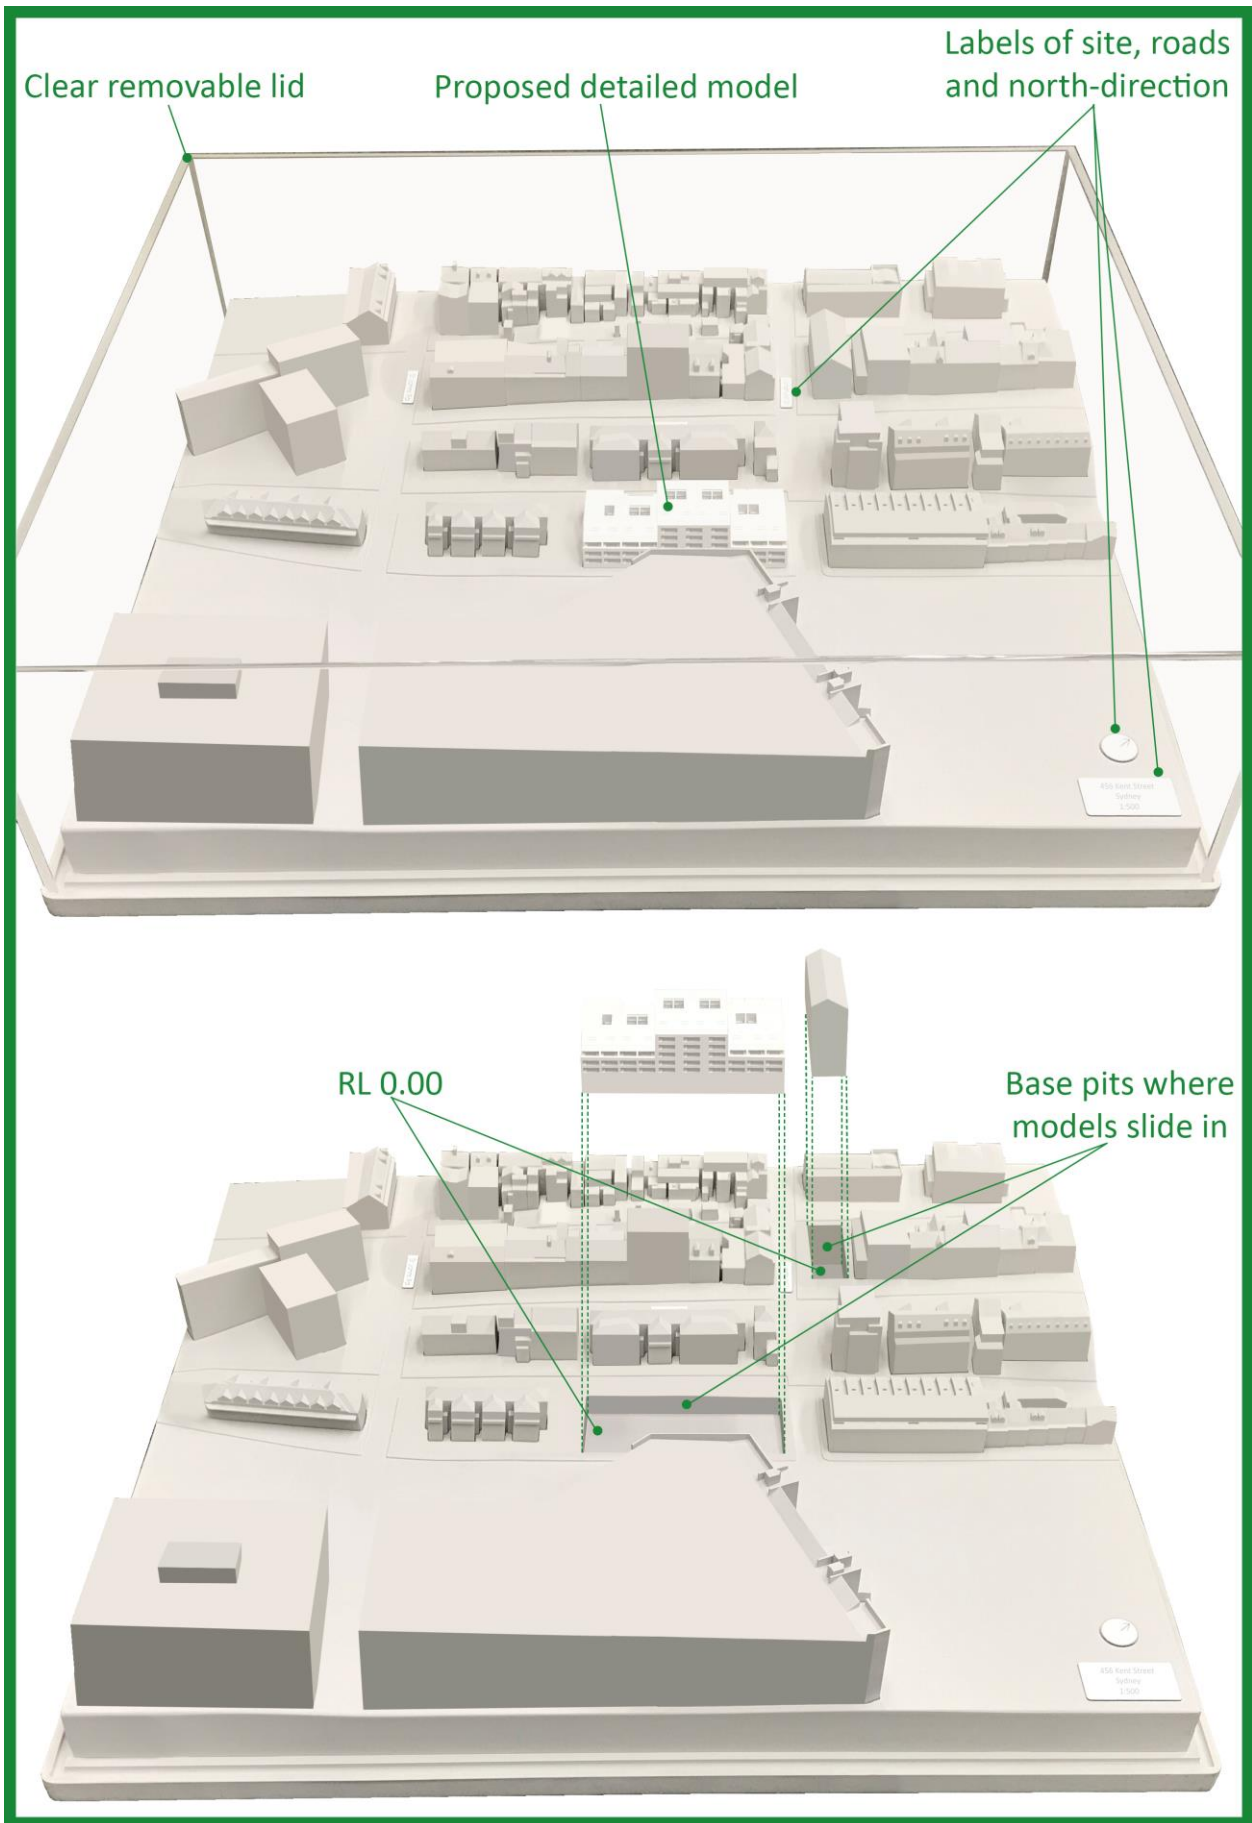

Figure 4. Level of details for a detailed 3D physical model.
- 3D physical Detailed models (Figure 4) are required for Development Applications, amendments, Occupation Certificates and retained buildings inside the site boundaries.
- The model base must contain roads and terrain with pits that match the shapes of the building blocks and go down to the Reduced Level (RL) of 0.00 of the Australian Height Datum (AHD) to enable sliding of the building blocks in and out of the base.